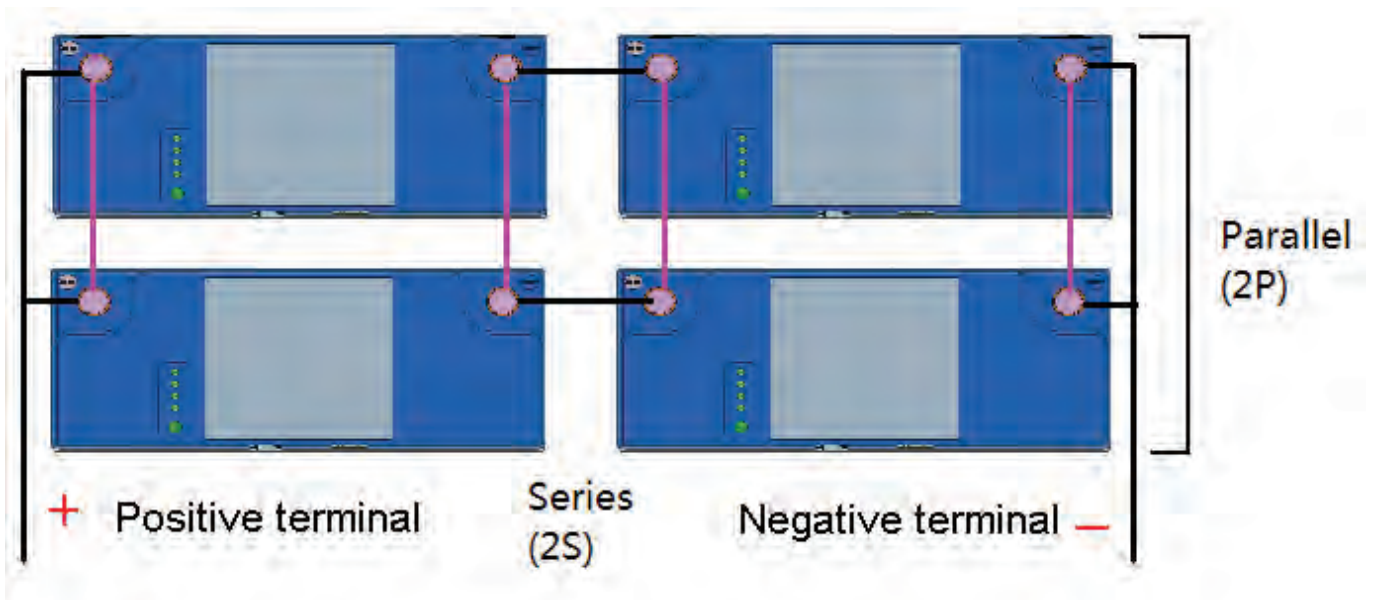

Figure 5 Installation of batteries in parallel and in series (2S2P configuration)
2. Batteries must be connected in parallel before the series string is connected as depicted in figure 5.
The battery configuration in figure 5 shows a simultaneous parallel and series format. The parallel configuration allows for capacity to increase while voltage remains the same.
As shown in figure 5, a combination of the parallel and series format allows for increased capacity and voltage resulting in longer run time. For example, if each battery shown below is a 12V battery, the combined parallel and series installation will result in 24V and twice the capacity.